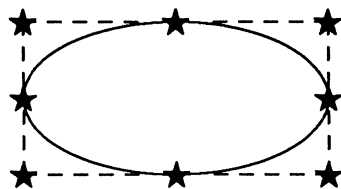

Figure 19-24. Gravity points on an oval
When you move the control point of an object in animation state within the gravity radius of another object, the control point snaps onto the gravity point so that the two occupy the same position (Figure 19-24).
-  Ovals have eight gravity points, one at each of the four corners of the bounding box and one at each of the points that touch the bounding box. Figure 19-24 shows the gravity points on an oval.